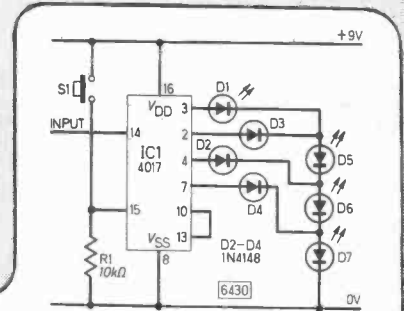

Fig. 1
- Instead of nine lives we used four lives with the l.e.d.s in series as shown in Fig. 1.